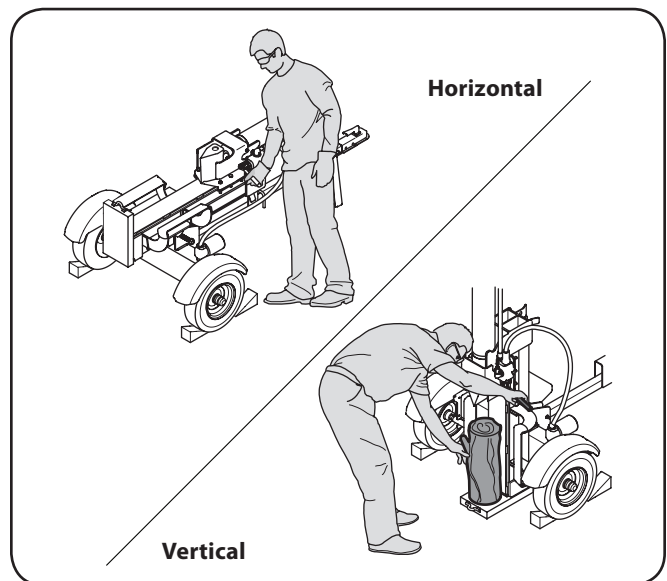

Figure 2-1
- a. Horizontal Operating Position: Stand on the control lever side of the log splitter in front of the wheel as shown in Fig. 2-1.
- b. Vertical Operating Position: Stand in front of the beam and log as shown in Fig. 2-1.